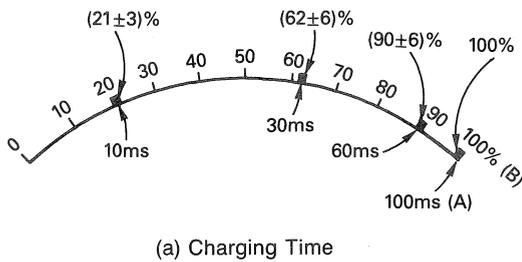

**Fig. 5 Mean-value Rectification Circuit**
*Mean-value rectification:* The full-wave rectifier shown in Fig. 5 gives mean value. The NAB requires to employ a VU meter. Reading the VU meter is very hard because its pointer moves very quickly.